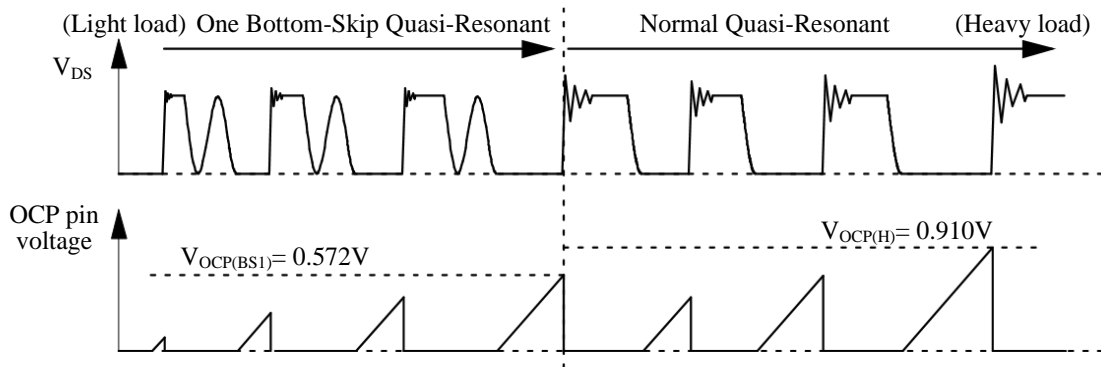
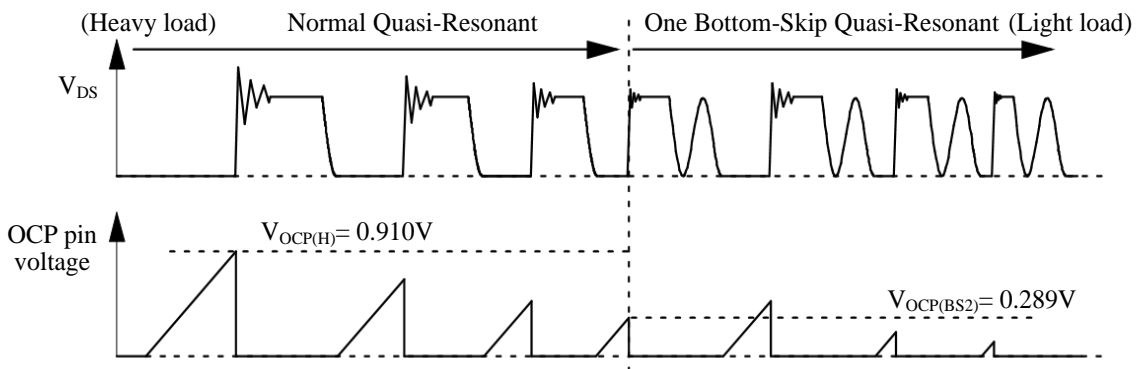

Figure 8-17. Operation State Transition Diagram from Light Load to Heavy Load Conditions
Figure 8-18. Operation State Transition Diagram from Heavy Load to Light Load Conditions
Figure 8-17 shows the operation state transition diagram of the output load from light load to heavy load. Figure 8-18 shows that from heavy load to light load. As these are state change diagrams without input compensation of OCP, the overcurrent detection threshold voltage shows just a  $V_{OCP(H)} = 0.910\text{ V}$ .
- The mode is changed from one bottom-skip quasi-resonant operation to normal quasi-resonant operation (Figure 8-17), when load is increased from one bottom-skip operation, the MOSFET peak drain current value increases, the on-time widens, and thus the peak value of the OCP pin voltage increases. When the load is increased further and the OCP pin voltage increases to  $V_{OCP(BS1)}$ , the mode is changed to normal quasi-resonant operation.
- The mode is changed from normal quasi-resonant operation to one bottom-skip quasi-resonant operation (Figure 8-18), when load is reduced from normal quasi-resonant operation, the MOSFET peak drain current value decreases, the on-time shortens, and thus the peak value of the OCP pin voltage decreases. When the load is reduced further and the OCP pin voltage decreases to  $V_{OCP(BS2)}$ , the mode is changed to one bottom-skip quasi-resonant operation. This suppresses the rise of the operation frequency.